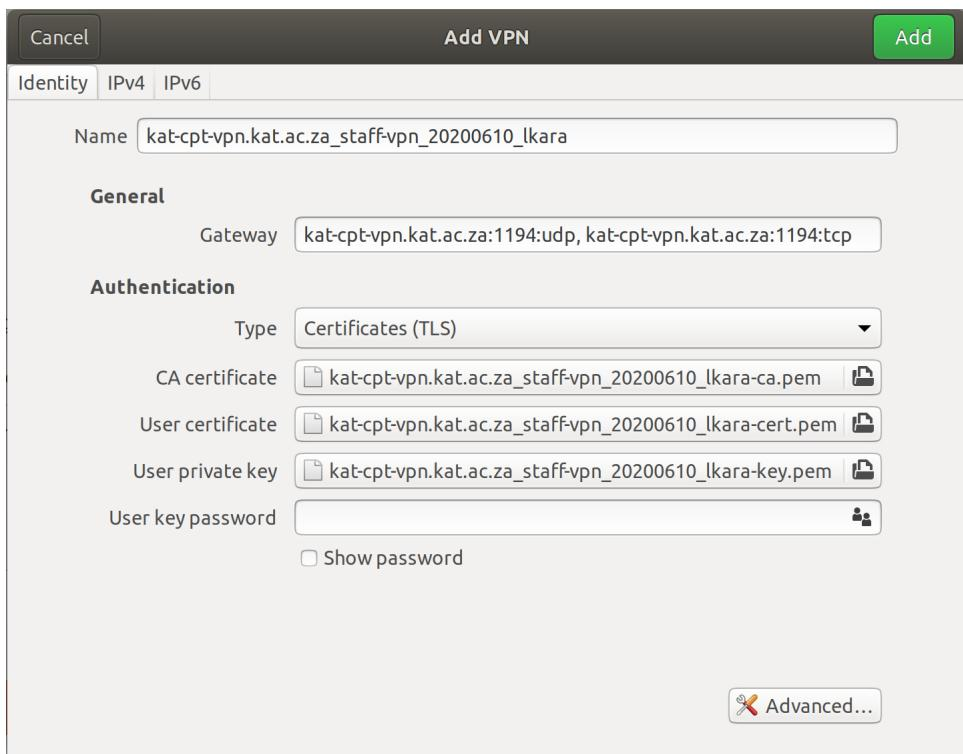

Figure B.4: CAM GUI approved SB
- After clicking on the correct .ovpn config file, the window as shown in **Figure B.4** should appear